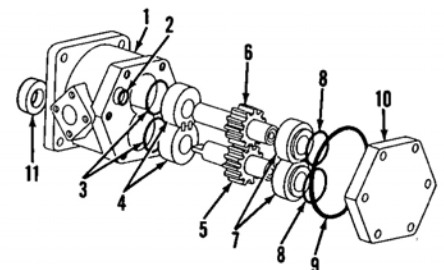

Fig. 98—Exploded view of hydraulic gear pump.
96. OVERHAUL. Remove the six screws securing end cover (10—Fig. 98), then separate end cover (10) from pump body (1). Remove “O” rings (2, 8 and 9). Extract outer bushings (7). Remove idler gear (6) and drive gear (5) by lightly tapping shaft end of drive gear (5) with a suitable mallet.
Remove inner bushings (4—Fig. 98) and “O” rings (3). Remove oil seal (11).